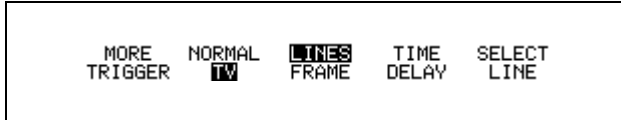
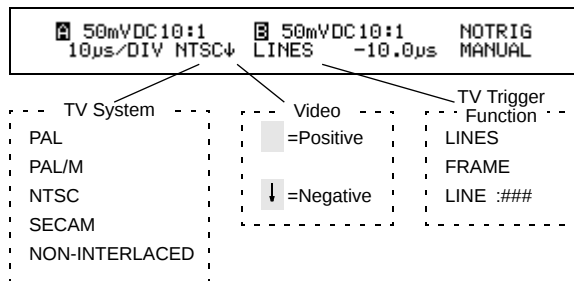

Figure 5-12. TV Trigger Menu
Figure 5-13. TV system and trigger function indicator
To use the TV trigger function, press **TRIGGER**; then press **F2** to open the TV trigger menu shown in Figure 5-12. You can select one of the following three TV trigger functions:
The TV system setting is shown at the top of the display, as shown in Figure 5-13.
1. From the TV Trigger Menu (see Figure 5-12):
To activate the LINES trigger function, open the TV trigger menu (see Figure 5-12); then press  to highlight LINES. The top of the display now indicates the Lines function (see Figure 5-13).
To activate the FRAME trigger function, open the TV trigger menu (see Figure 5-12); then press  to highlight FRAME. The top of the display now indicates the Frame function (see Figure 5-13).
To select a line, refer to Figure 5-12 and do the following: